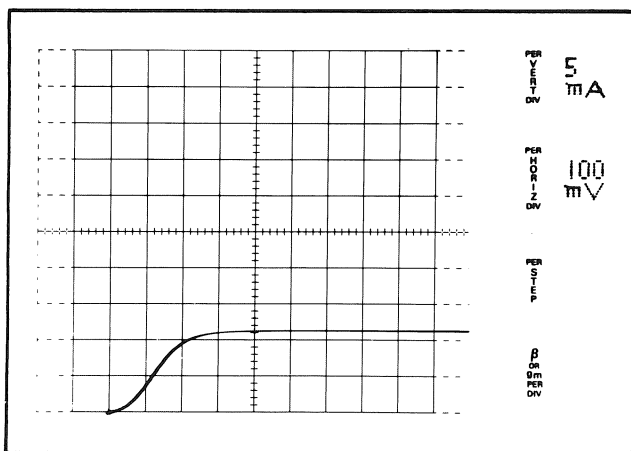

Fig. 2-6. Test 3,  $H_{FE}$
9. Press the ADVANCE button. The 172 will now be performing Test 3,  $H_{FE}$ . See Fig. 2-6.  $H_{FE}$  will be  $I_C/I_B$  or